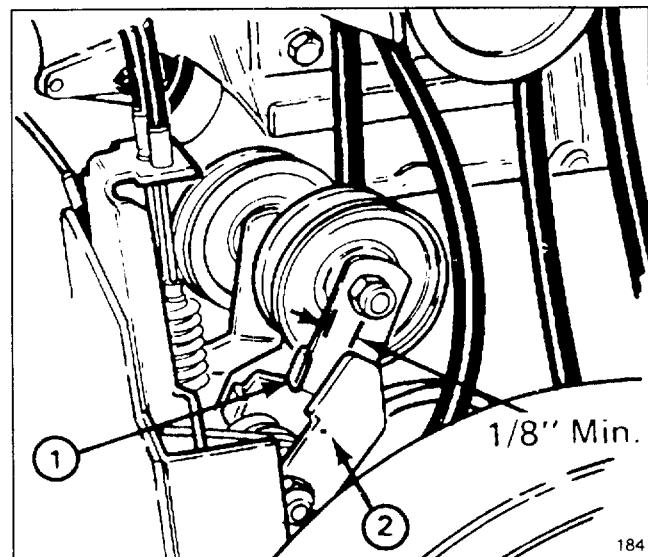

Figure 30
8. Check impeller brake arm clearance by releasing the auger/impeller lever. With the lever released, there should be more than  $1/8"$  clearance between tab on impeller idler arm and brake arm (Fig. 30). If there is less than  $1/8"$  clearance, belt must be replaced.